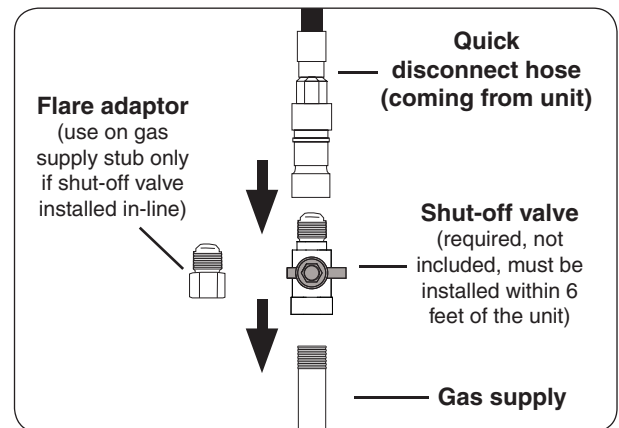

Fig. 15-2 Connecting to a gas line
- Connect the quick disconnect hose to the shut-off valve (see Fig. 15-2). Tighten securely.
- Install the supplied flare adaptor to the gas supply using a pipe joint compound resistant to all gasses (see Fig. 15-2). Tighten securely.
- Connect the quick disconnect hose to the flare adaptor (see Fig. 15-2). Tighten securely.